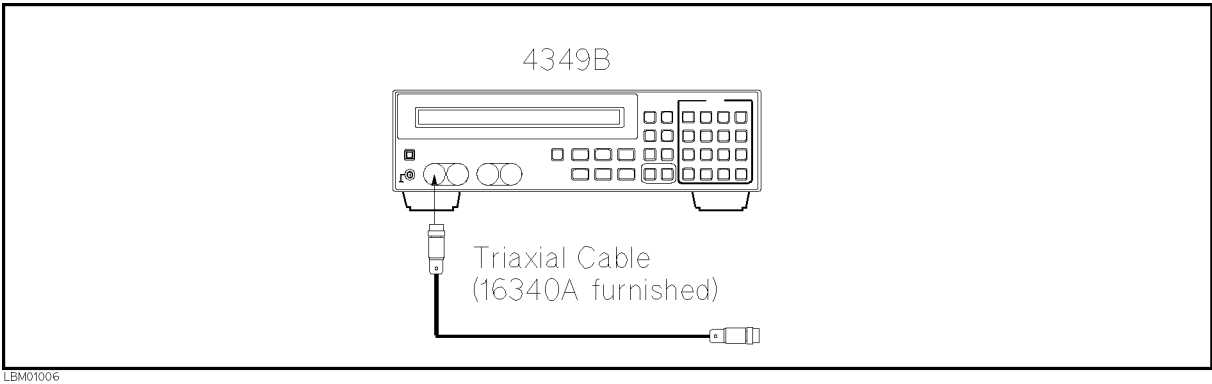

Figure 9-7. Resistance Measurement Accuracy Test Setup
- Set up the equipment as shown in Figure 9-7.